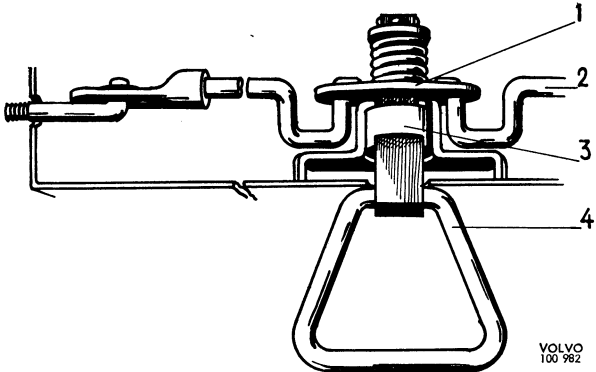

Fig. 11. Catch device for rear seat, Station Wagon
The backrest consists of a back plate fitted with rubber bands. The padding consists of foam plastic and the upholstery of fabric-backed vinyl. The rear side of the back plate is provided with a mat and when folded down forms an extension of the floor in the loading space. The backrest is locked in the normal position by a spring-loaded catch device, see Fig. 11, the handle (4) of which operates the latches through an eccentric (1) and pull rods (2). The lower corners of the backrest rest partly on a fixed catch and partly (on the left-hand side) on a sprung catch.